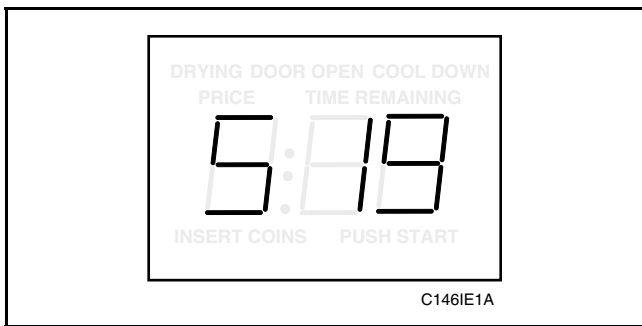

Figure 55
- While pressing and holding the HIGH TEMP pad with one hand, press the MED TEMP pad with the other hand. Programmable option number 1, (Audio Signal “SIg”), will appear in the VFD, *Figure 55*.